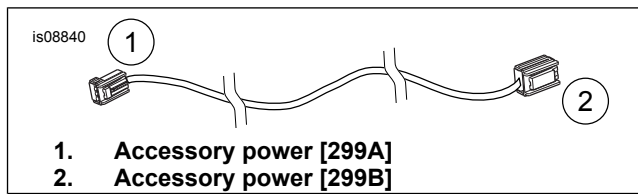

Figure 13. Wire Harness, Jumper
- c. Install the 69201545 jumper (See Figure 13) to the other end of the 69200921 "Y" inside the faring. (If a 69201545 jumper has already been installed on vehicle skip ahead to "f" Do not install more than one 69201545 jumper.)